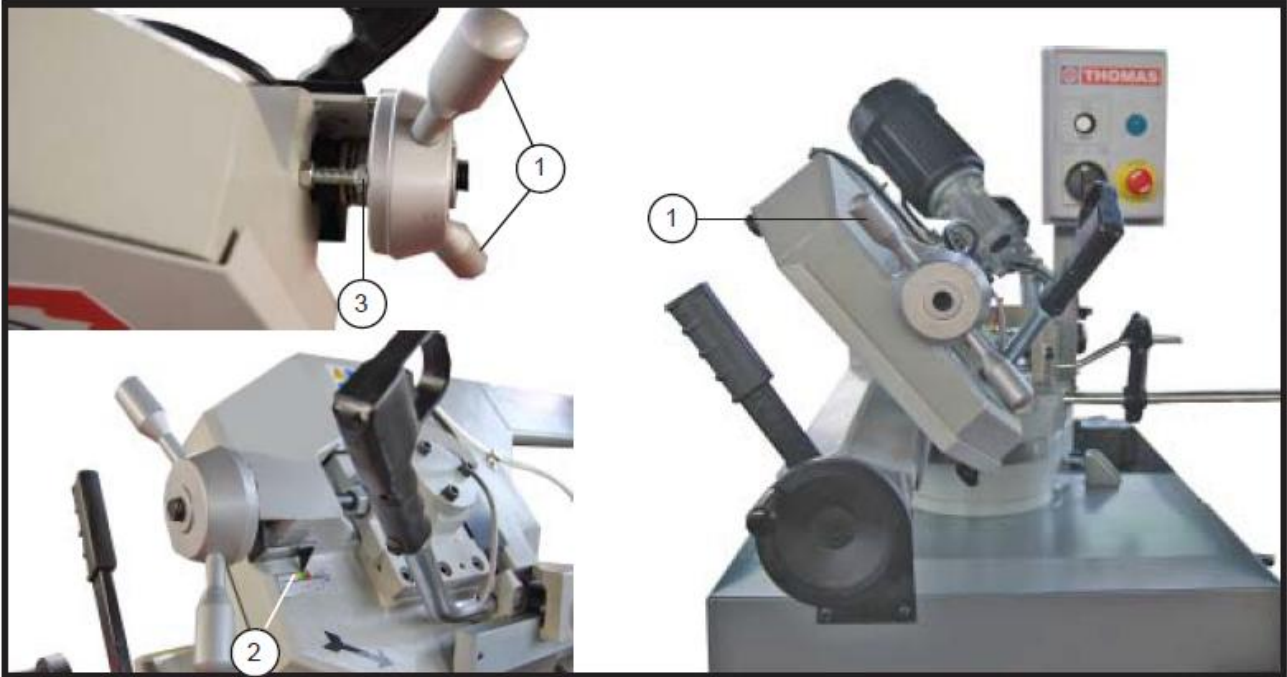

Fig. 4-11
- Blade tension is obtained by turning the hand wheel (1 fig. 4-11) clockwise.
- Turn the hand wheel till the index gets to the green area (2 fig. 4-11), or against the mechanical stop (3 fig. 4-11).